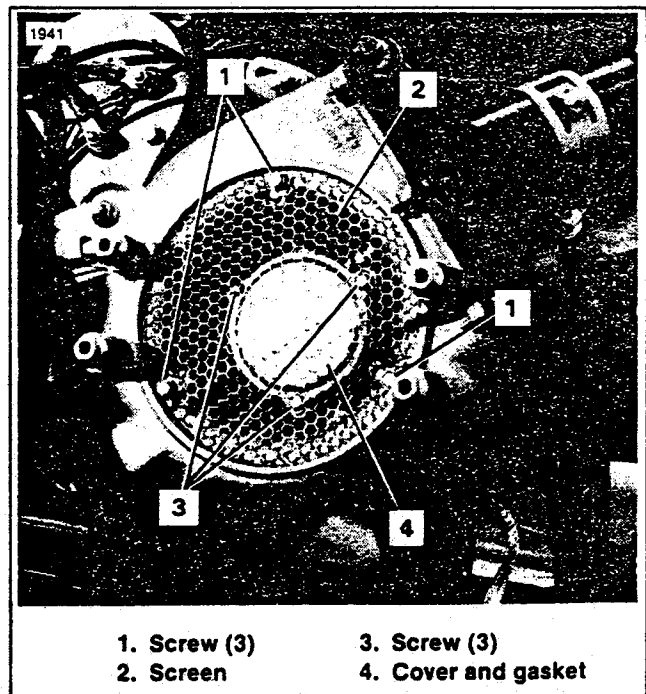

Figure 8-11. Circuit Breaker Cover
2. See Figure 8-11. Remove the fan shroud screws (1), screen (2), cover screws (3) and cover and gasket (4).
1. Install point set, connect coil wire to points (8).
4. See Figure 8-11. Install cover and gasket (4), cover screws (3), screen (2) and fan shroud screws (1).